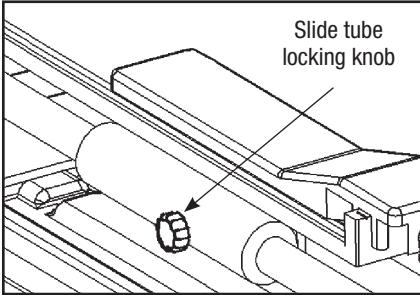

FIGURE 17
STEP 3: Loosen the *slide tube locking knob* (FIGURE 17).
STEP 3: Loosen the slide tube locking knob (FIGURE 17).
STEP 2: Position the cutting table in its farthest back position and lock with *slide tube locking knob* (FIGURE 17).
Before moving the saw, be sure to tighten the *slide tube locking knob* (FIGURE 17), to prevent *main working table* from sliding randomly during transport.